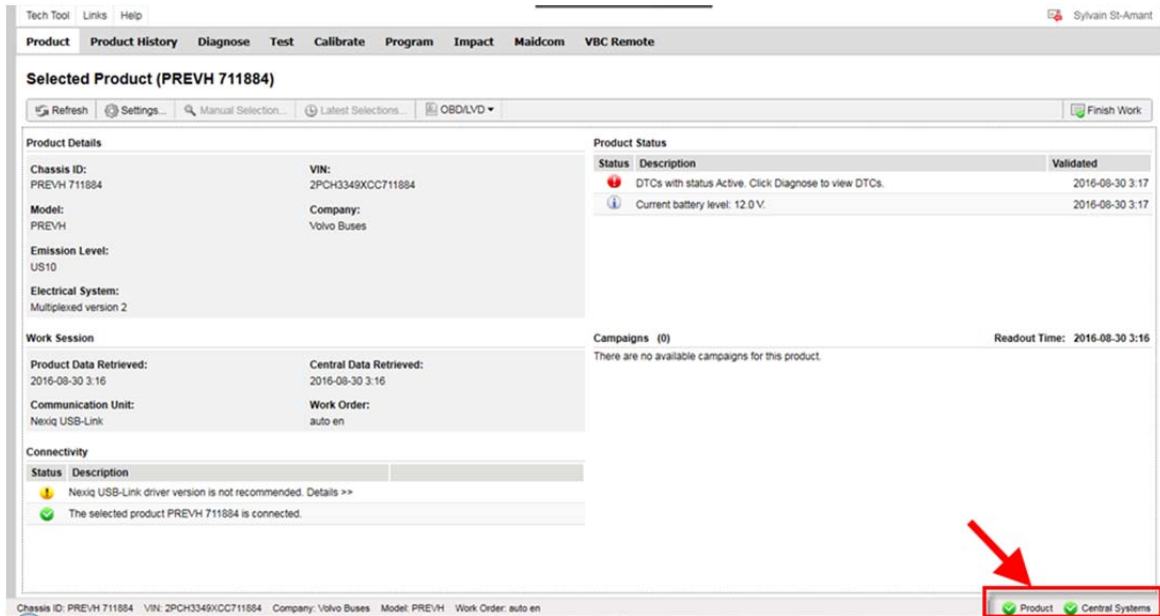

FIGURE 14
- Premium TechTool should confirm with two green dots that you are properly connected to the vehicle and the central system (FIGURE 14)